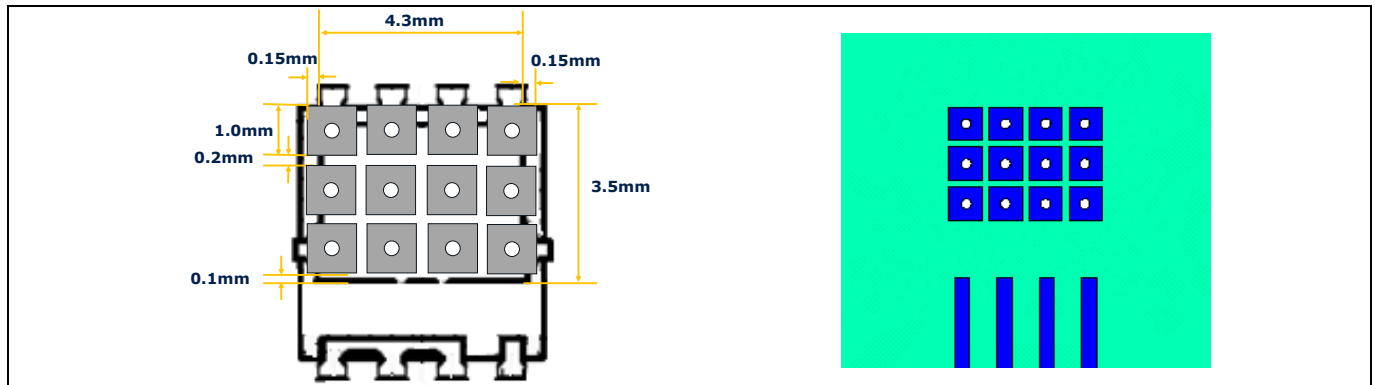

Figure 8 12 JEDEC thermal vias with dimensions (left side) and detailed top view of board (right side)
- A JEDEC (Joint Electron Device Engineering Council) board is used for thermal assessment. PCB construction is according to JEDEC standards 2s2p, with thermal vias as seen in Figure 8.